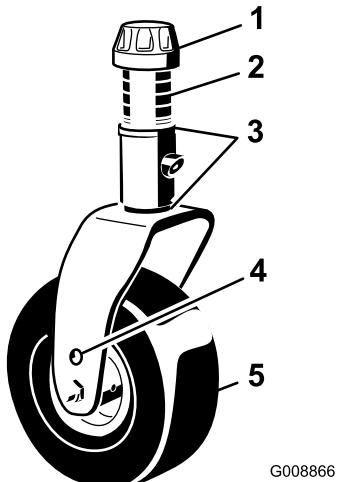

Figure 26
3. Adjust the shims (3 mm or 1/8 inch) on the front caster fork(s) to match the height-of-cut decal (Figure 26); refer to Adjusting the Mower-Deck Pitch \(page 56\).